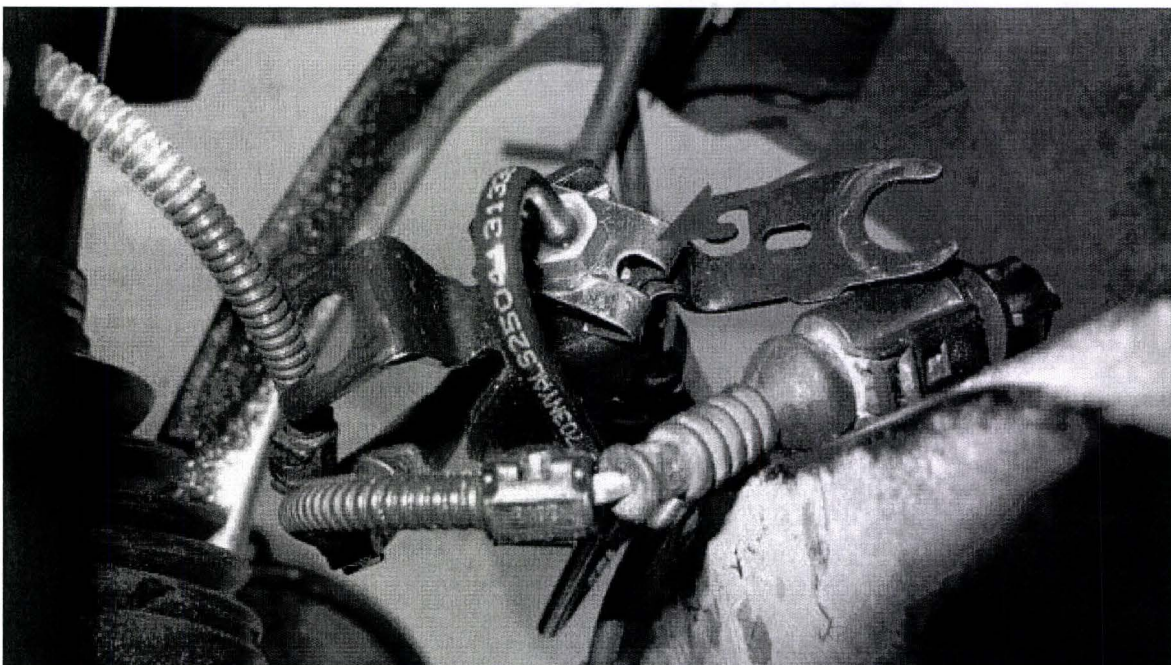

Figure 6
5. Fit the new metal brake pipe with a new retaining clip and hand tighten the 11 MM brake pipe nut, the retaining clip should be positioned exactly as shown in Figure 6